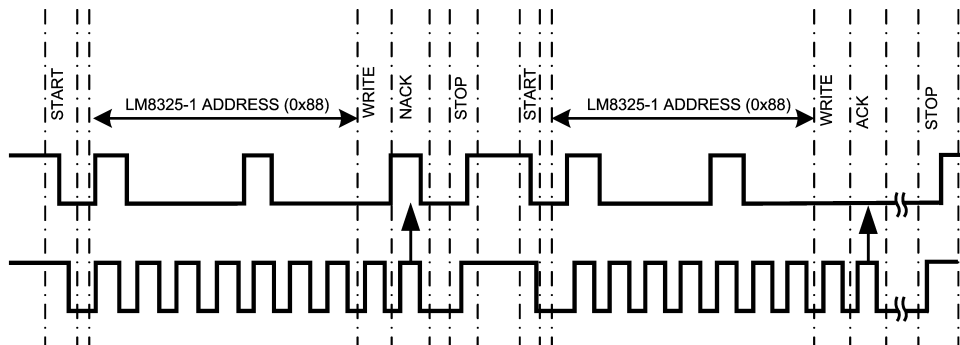

Figure 5. Host Starts Communication While LM8325-1 is in Sleep Mode
- In the timing diagram shown in Figure 5 the LM8325-1 resides in sleep mode. Since the LM8325-1 device can't acknowledge the slave address the host must generate a STOP condition followed by a second START condition.